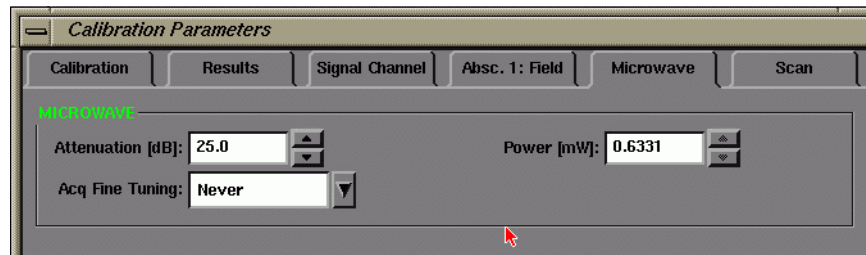

Figure 17-9 The Microwave folder of the Calibration Parameter dialog box.
12. **Set the Microwave Attenuator to approximately 25 dB.** Click the Microwave tab. Set the microwave power to 25 dB. (See Figure 17-9.)